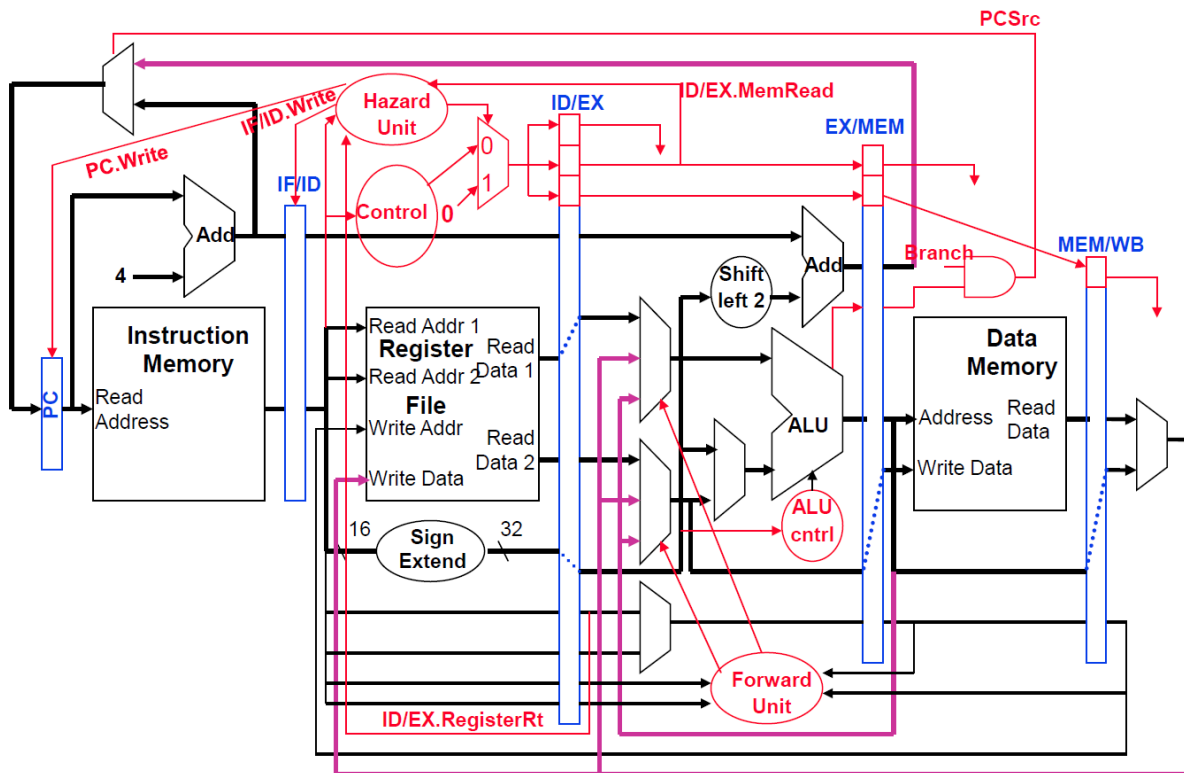

Figure 3. Pipeline with Forwarding and Hazard Units (Bonus)
5. **Bonus:** Implement either Stall or Forwarding (or both) and demonstrate it for data-hazards (Figure 3). (Up to 20% worth of points if you successfully implement both, you'll not be penalized at all for not finishing the bonus tasks)